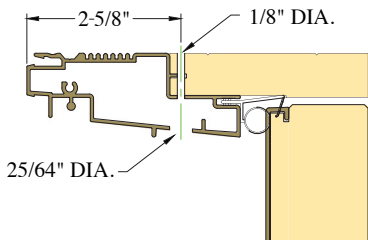

FIG. 16
each side jamb and three equally spaced points along the head jamb. Then drill a 1/8" pilot hole through the entire unit at each of the 11 marked places. (Fig. 16)
- E) After the pilot hole has been created, drill a 25/64" hole through the aluminum cladding only. (Fig. 16)